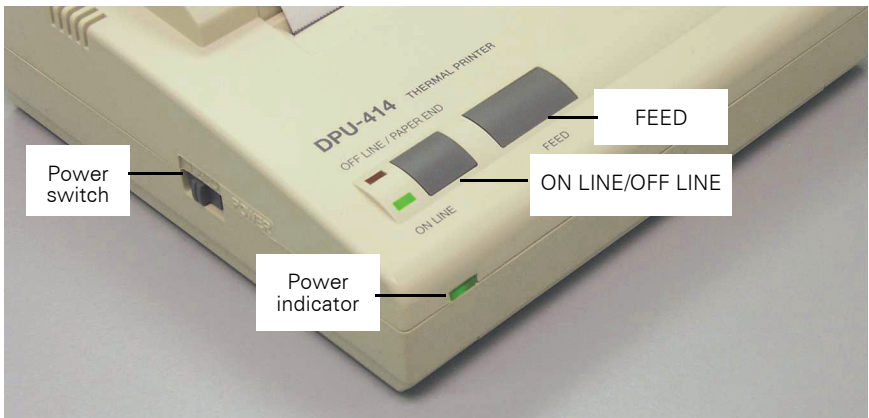

Figure 2-1. Printer Controls and Indicators
- Slide Power switch (on side of printer) to On (I) position (Figure 2-1). Green power indicator turns on and flashes once every second. If battery is low, indicator flashes once every 1/2 second.